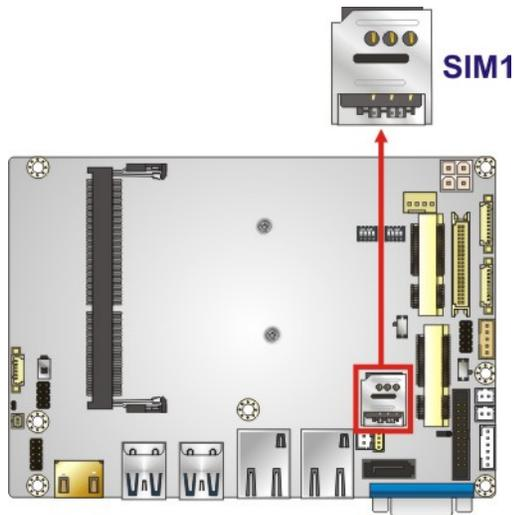

Figure 3-18: SIM Card Slot Location
- CN Location:** See Figure 3-18